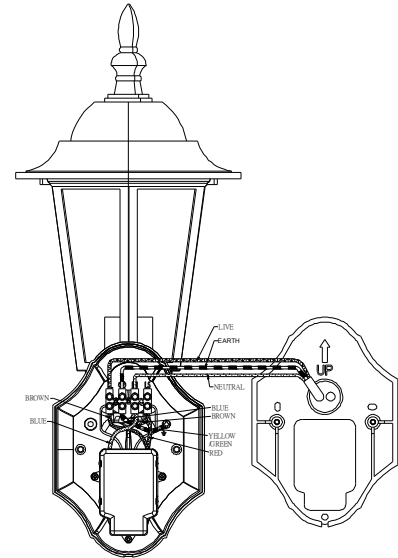

FIGURE 11.
- (5) Strip approximately 6-8mm of insulation from the wires on the supply cable.
- (6) Connect the YELLOW/GREEN (Ground wire) to the terminal block "⊖" mark. Connect the BROWN wire (Live wire) to the terminal block "L" mark. Connect the BLUE wire (Neutral wire) to the terminal block "N" mark. (FIGURE 11)